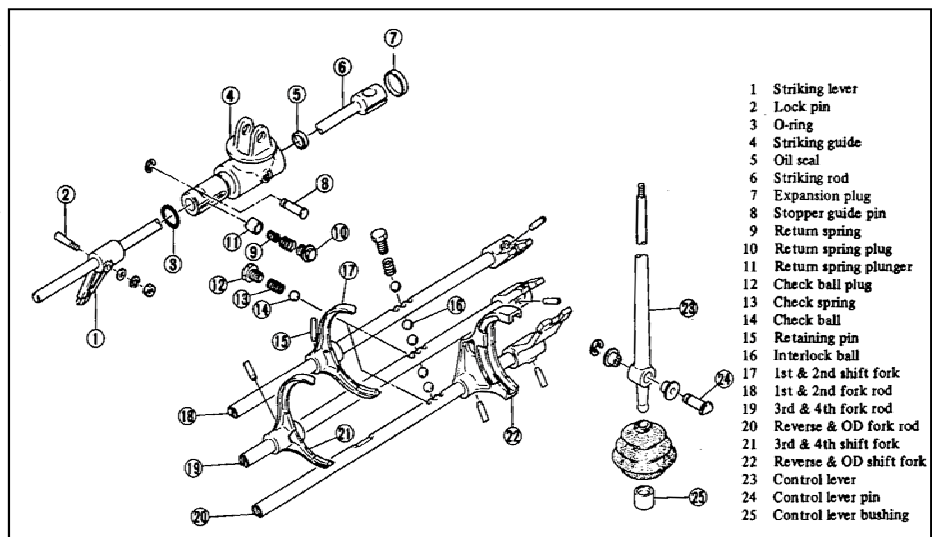

Figure 3—Exploded view of the shifter and gear selector forks.
gently insert the tip into the hold-down slot and pry against the tail housing for leverage. Remove the striking rod E-ring and stopper guide pin (Figure 3, Part 8) from the rear end of the tail housing. This is the pin at the top of the tail housing directly in front of the striking guide (Figure 3, Part 4). Remove the return spring plug, return spring, reverse check spring, and plunger (Figure 3, Parts 9, 10, & 11) from rear extension. There may only be a single spring, depending on your transmission. Remove the eight (8) bolts securing the rear extension housing (Figure 1, Part 8) and turn the striking guide (Figure 3, Part 4) toward the left (as viewed from the rear of the transmission). Drive the rear extension housing backward by tapping with a soft-face mallet. Any sealant will be holding the housing tight to the adapter plate (Figure 1, Part 5). Use the mallet against the transmission mount casting for leverage. Photo 4 shows the transmission internals with the rear extension housing removed.
Using a pin punch, drive out the roll pins (Figure 3, Part 15) holding the shift rod forks (Figure 3, Parts 17, 21, & 22 – Photo 6). Do not remove the roll pins holding the shift gates to the end of the
shift rods (Figure 3, Parts 18, 19, & 20). Remove the check ball plugs, springs, and check balls (Figure 3, Parts 12, 13, & 14). From the left side, your adapter plate will have access to the plugs for the 3rd / 4th gear shift rod and for the 5th / Reverse shift rod, but the 1st / 2nd shift rod will be accessed from the bottom, next to your vise jaws. The plugs are soft, so use a socket on each. When you remove the 1st / 2nd gear plug and spring, the check ball will drop out. Be prepared to catch it or be prepared to crawl around your floor looking for it. Drive out the shift rods by tapping with a soft mallet. All of the check balls will now be loose and ready to drop out. Your best defense is a good offense. Using a piece of wire, force each ball into the shift rod bore and remove (Photo 7). There are a total of three check balls and four interlock balls (Figure 3, Part 16). Set the plugs, springs, and balls aside in a sealed bag or container.